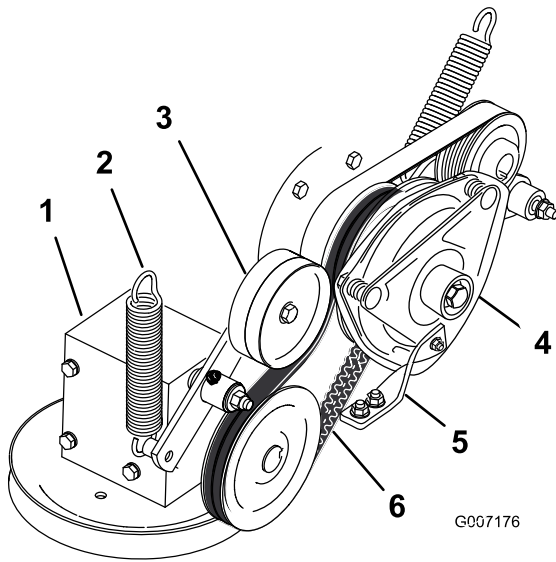

Figure 79
- Remove the spring from the idler arm (Figure 79).
- Install the PTO-drive belt around the clutch pulley and the gearbox pulley (Figure 79).
9. Install the spring to the idler arm (Figure 79).